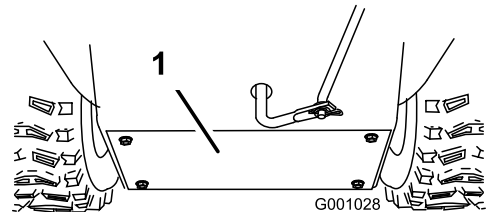

Figure 50
- Remove the back cover (Figure 50).